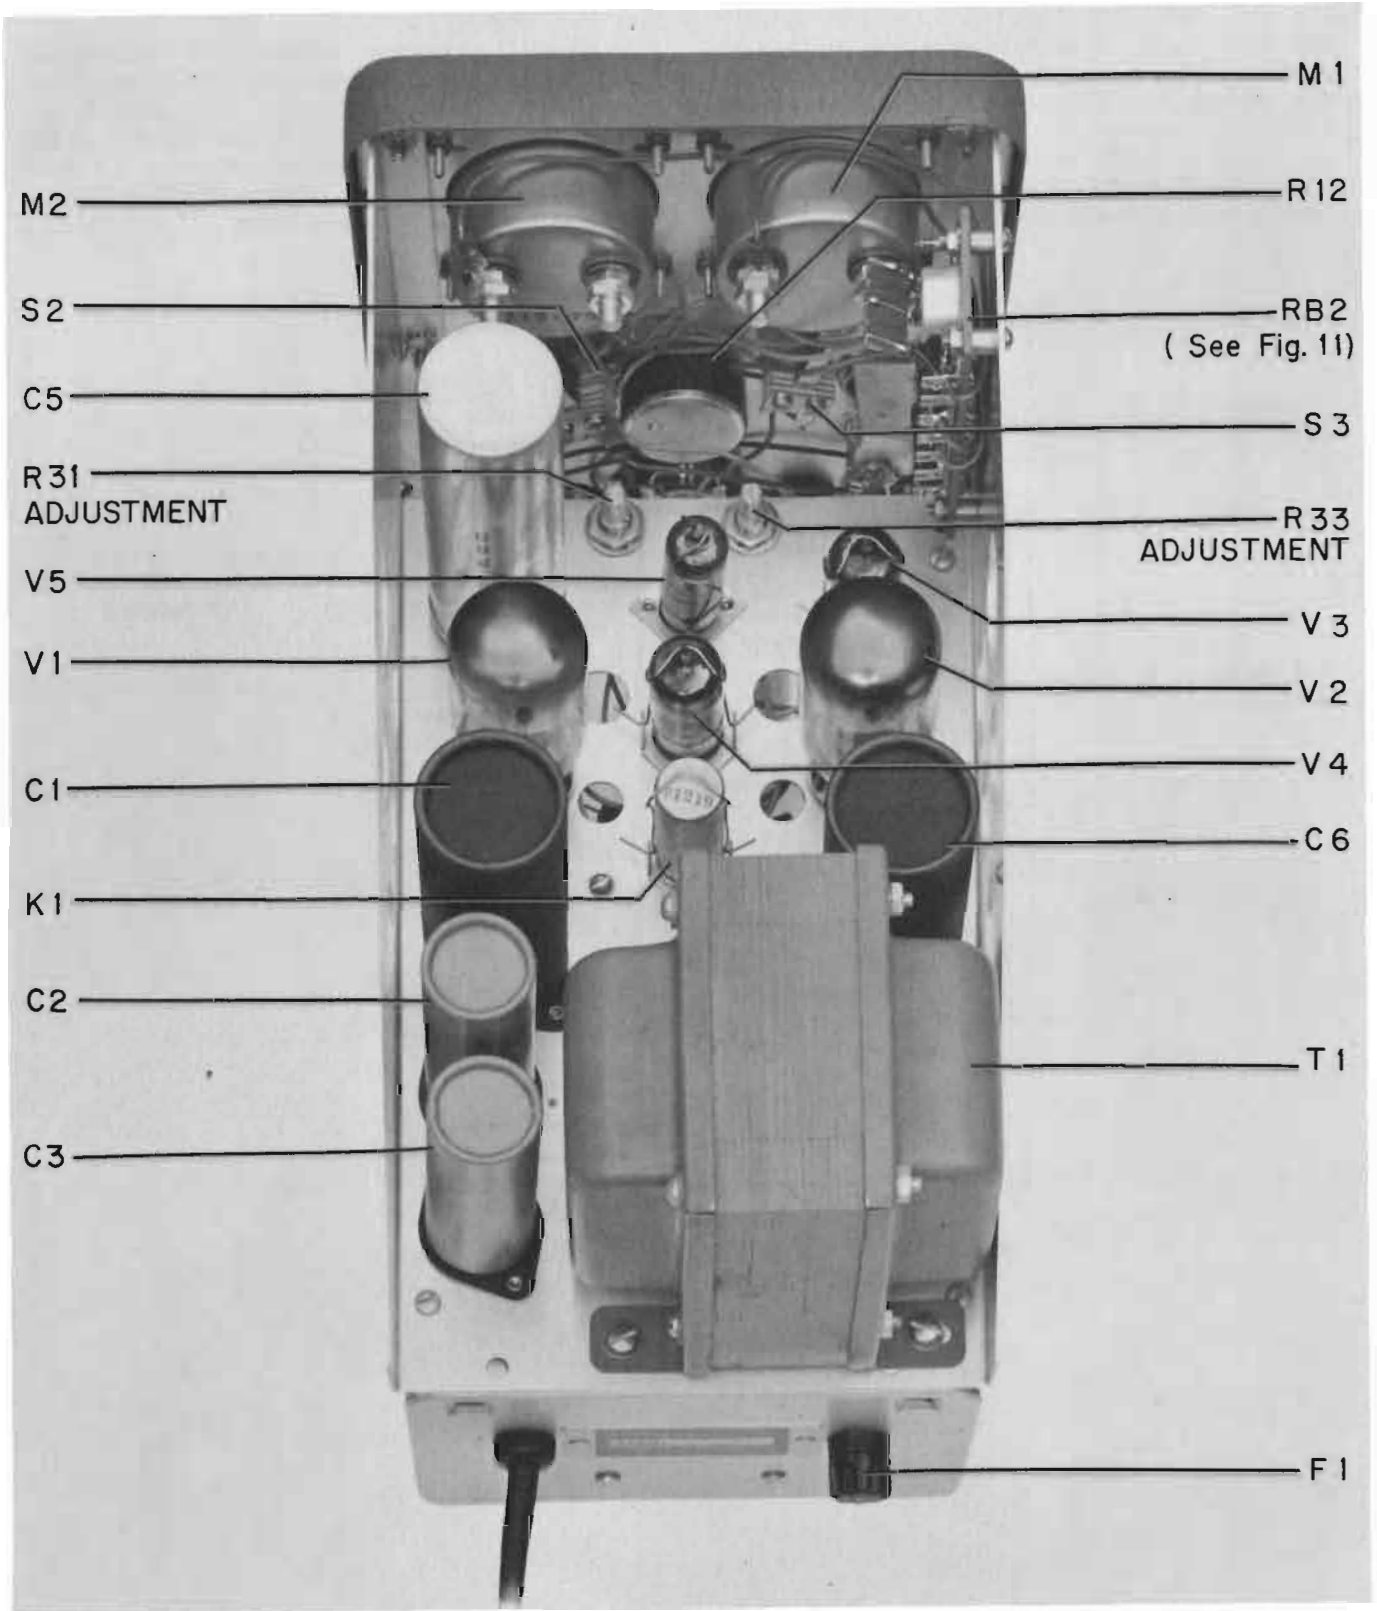

Figure 4-2. Model 711A Top View Cover Removed
- c. Low-End and High-End Adjustments - The adjustments for R31 and R33 are brought out to the upper side of the deck, and are identified in Figure 4-2.
Variable resistor R14, which is part of the shunt network across milliammeter M2, is mounted on resistor board RB2. Connections to R14 are indicated in Figure 4-4, and the location of RB2 on the chassis is shown in Figure 4-2.
<p>b. Defective tube in main regulator. (CONT'D.)</p> <p>c. Potential applied to tube pins not of proper values.</p> <p>d. Relay K1 held operated.</p>	<p>(2) Check V1, V2 as follows:</p> <p>A. Check that no load is connected to d-c output terminals.</p> <p>B. Remove one 6L6 and leave other in circuit. If trouble clears with one 6L6 out of circuit, replace that 6L6.</p> <p>c. Check d-c voltage on pins of all tube sockets: should be within $\pm 10\%$ of those shown in Figure 4-8.</p> <p>d. Check that no load is connected to d-c output terminals. Remove K1. If voltmeter indicates the removal of K1 has corrected the trouble:</p> <p>(1) Check contacts on switch S2 (Figure 4-2)</p> <p>(2) Check for open resistor R2.</p> <p>(3) Check K1 by substituting relay known to be good.</p>